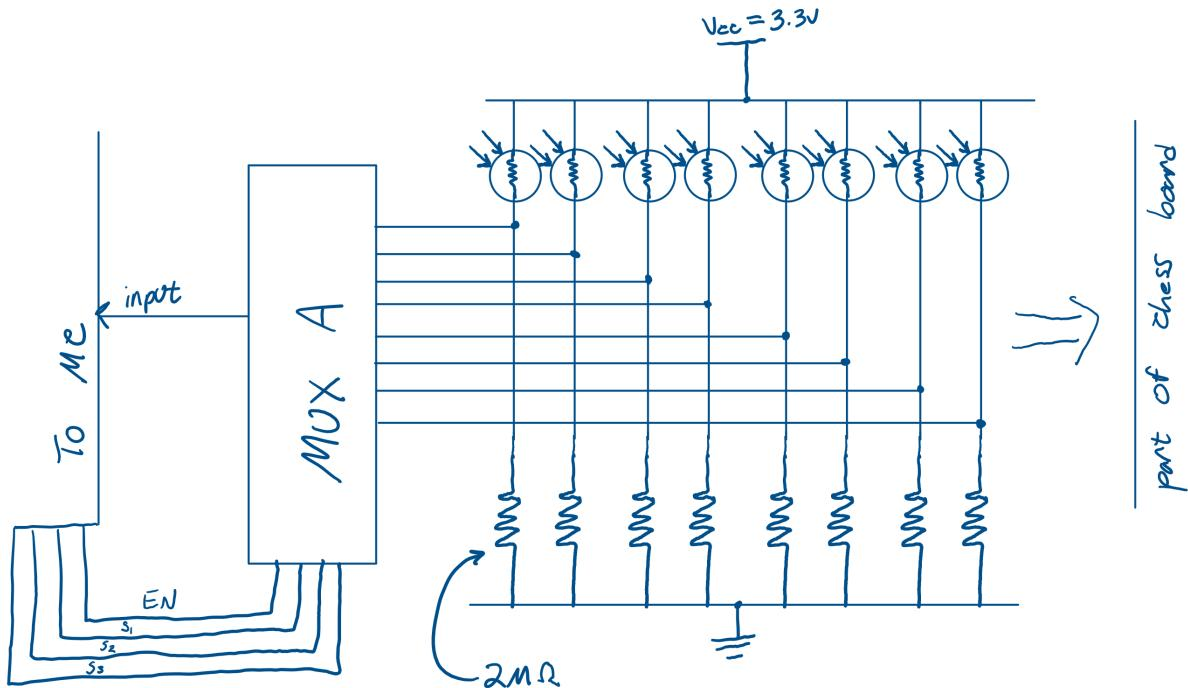

Figure 3: Multiplexer Sudo Circuit Diagram
Figure 3 shows the sudo circuit for Muxltiplexer A, the puzzle me chess project will consist of 8 Muxltiplexer one for each column A-H. Each of the Muxltiplexers will have 8 outgoing lines that will read Voltages levels from the rows # 1-8. Each row will have one resister which will is set to be $2M\Omega$ and one Photoresister in series. Each Photoresister has two modes a light and a dark mode. Equation (1) shows Mux input voltage at 3.29VDC and equation (2) shows Mux input voltage at 2.2VDC.